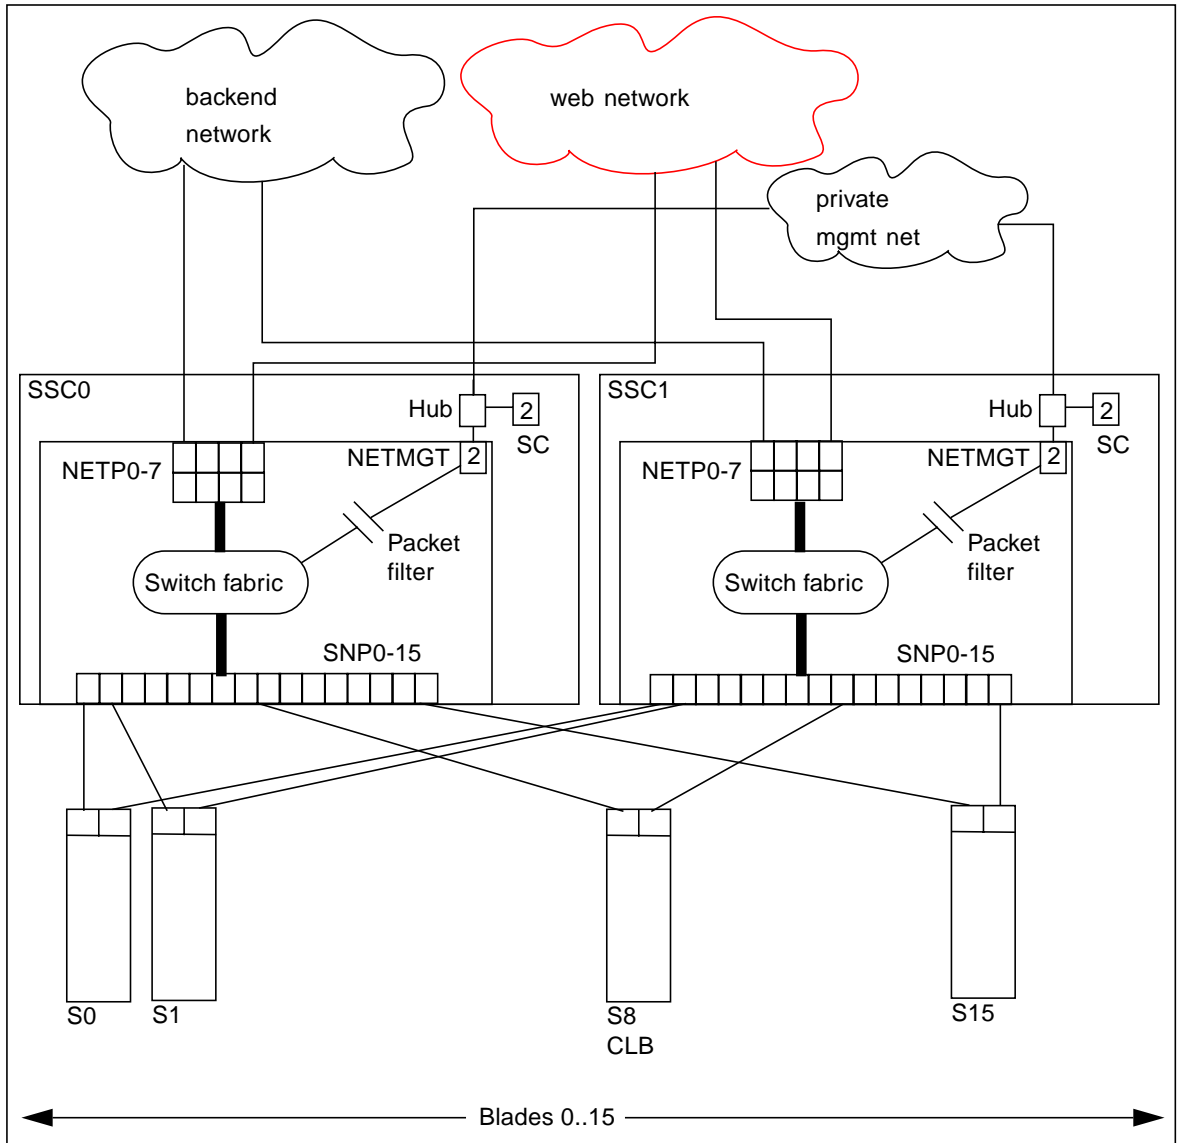

FIGURE 1-3 A Dedicated Management Network and Web Server Network Isolated from the Backend Network
The numerals associated with each port (either 1 or 2), represent the VLAN numbers programmed into the system by default. The numbers indicate that there is one data VLAN (1), and one management VLAN (2). Further VLAN partitioning might be desirable as shown in FIGURE 1-3. The actual VLAN-ID assignment can be coordinated with the VLANs used in the external switches, or its scope can be limited to the internal switches, by keeping the uplinks as untagged VLANs.